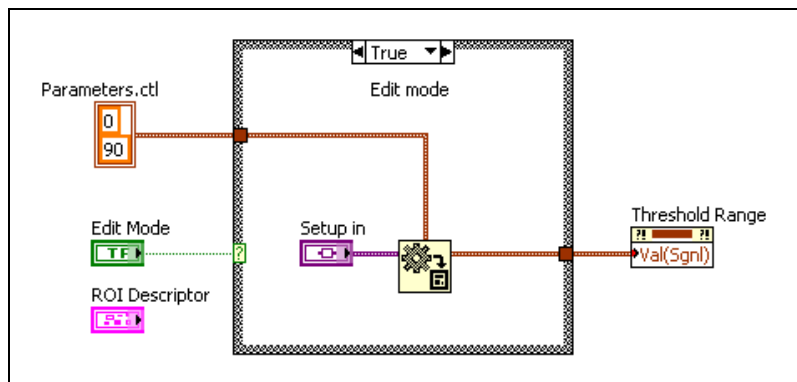

Figure 3-4. Editing Default Values for the Threshold Range
4. Enter 90 as the value for the **Maximum Value** numeric control. Figure 3-4 illustrates the modified control.